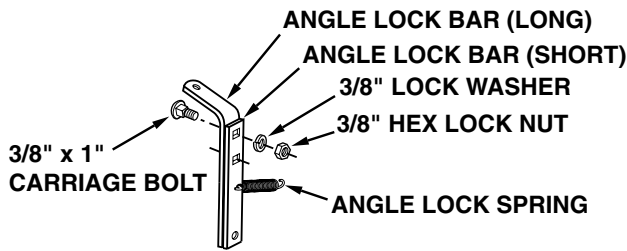

Figure 3
- Assemble the long and short angle lock bars together using two 3/8" x 1" carriage bolts, 3/8" lock washers and 3/8" hex lock nuts. Make sure all holes are aligned. See figure 3.
- Insert the straight hook end the angle lock spring into the middle hole in the angle lock bars. The curved hook on the other end of the spring should be facing up. See figure 3.